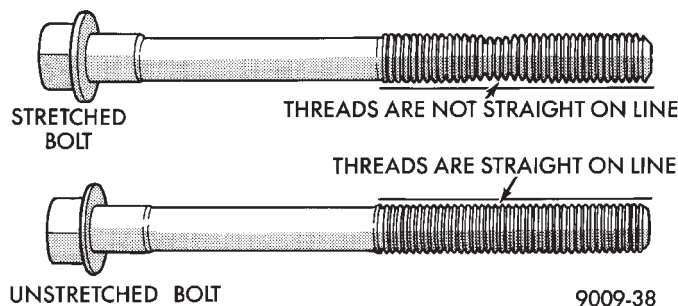

Fig. 98 Check for Stretched Bolts
(1) Check connecting rod bolts for necking by holding a scale or straight edge against the threads. If all threads do not contact the scale, the bolt should be replaced (Fig. 98).